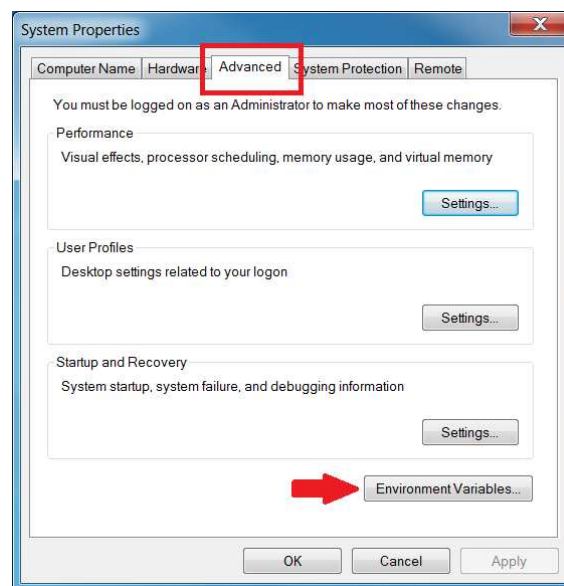

Figure 12. Open Environment Variables
3. Once the system properties window opens, select the “Environment Variables” button in the “Advanced” tab as shown in Figure 12.